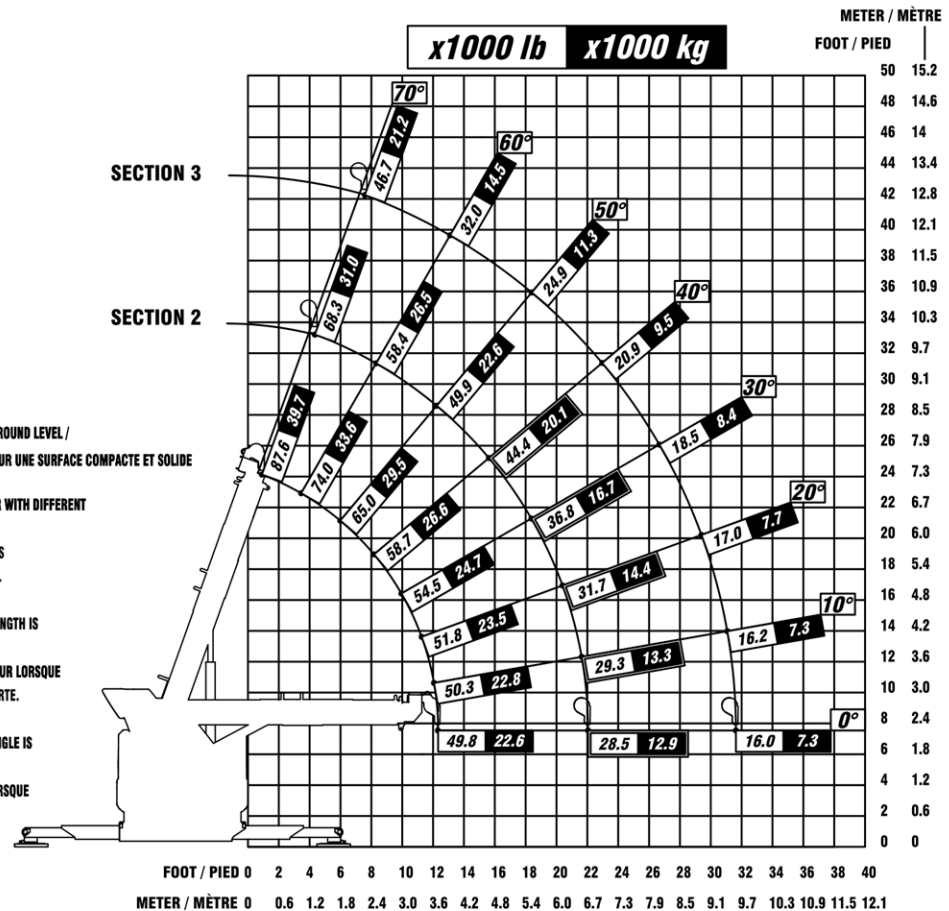

FIGURE 18 – LIFTING CAPACITY OF THE CSR65 FROM THE SIDE
- Figure 18 — Lifting Capacity of the CSR65 from the Side